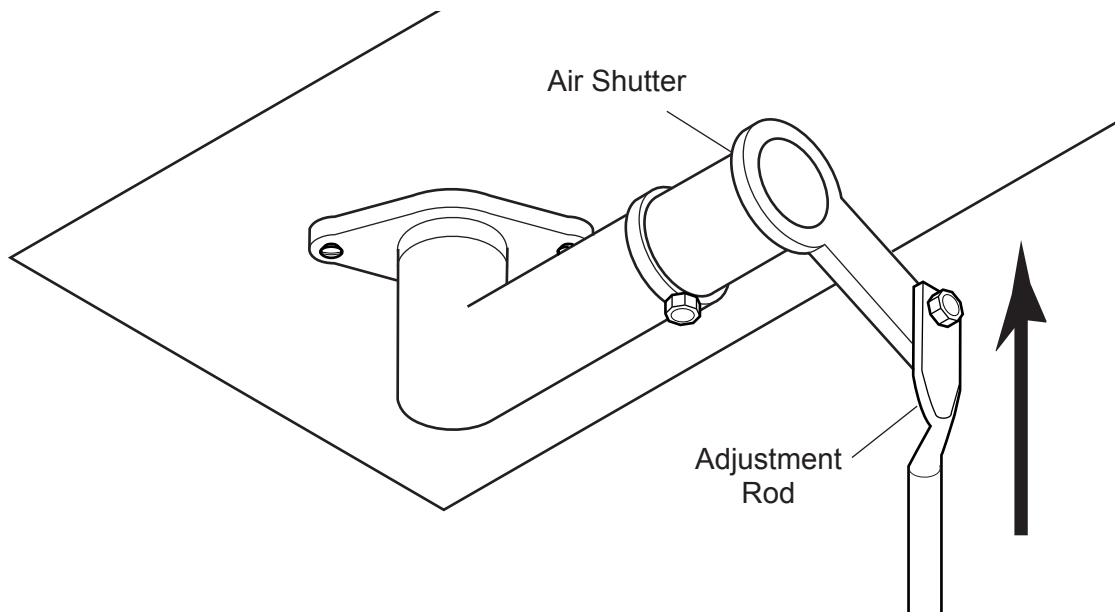

Figure 47 - Push Adjustment Rod Up to Open Air Shutter
- To increase air mixture, push up the adjustment rod located beneath the stove. This opens the shutter more and will stop or minimize sooting. *See Figure 47.*